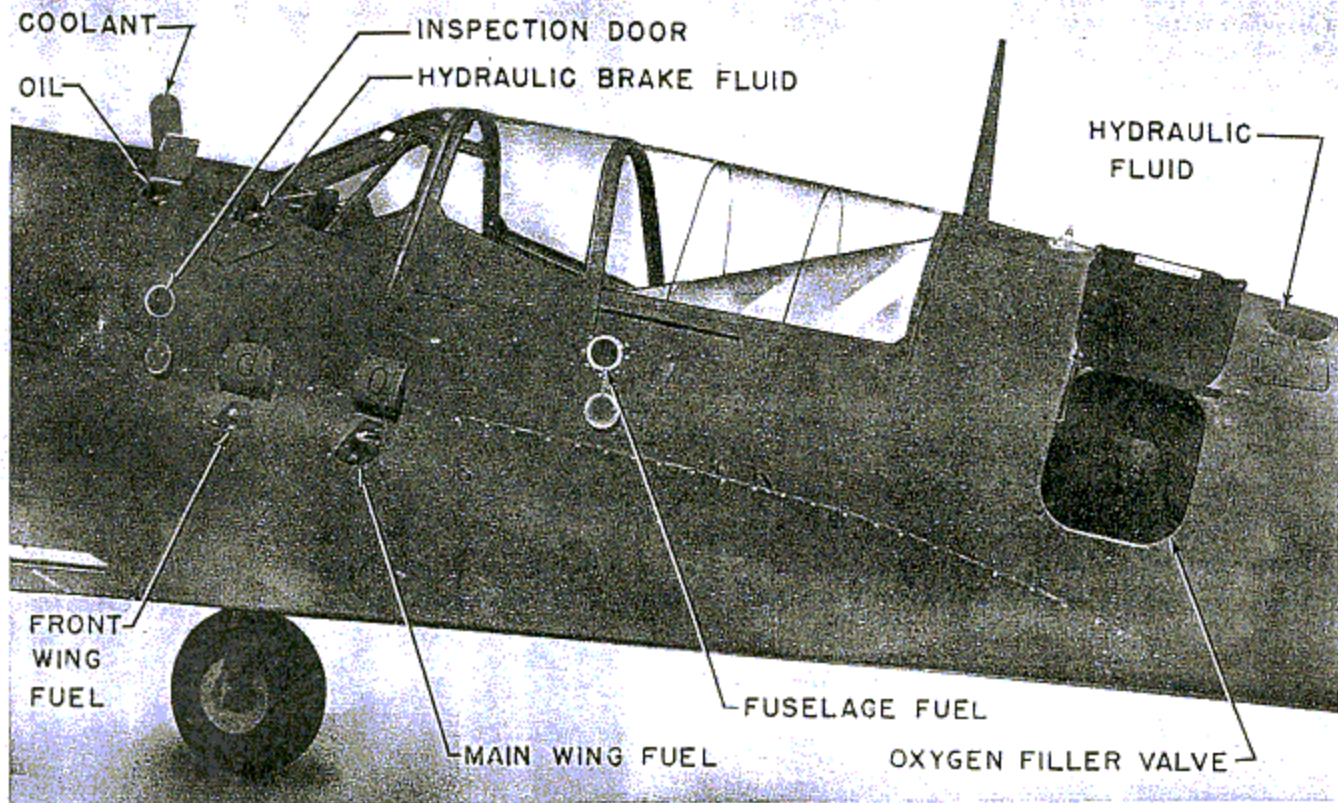

Figure 25—Fuel, Oil and Coolant Filler Ports
The front and rear wing fuel tank filler caps are located beneath the left wing fillet and are accessible through doors in the fillet. (See figure 25.)
(6) **FILLING THE OXYGEN SYSTEM.**—The oxygen cylinders may be filled without removing them from the airplane, by pushing the filler valve adapter from the recharging cylinders into the filler valve of the airplane. Push the adapter into the valve until it snaps into place. The filler valve is located just inside the fuselage access door. (See figure 25.) Be sure the emergency valve on the regulator is closed tightly, and that no leaks exist in the system. Fill the oxygen system to 425 pounds per square inch. Do not exceed 450 pounds per square inch. To disconnect the filler line from the filler valve assembly, trip the filler valve handle clockwise about one eighth of a turn. Since pressure will blow the adapter out, securely hold the end of the hose near the filler valve before tripping the handle.